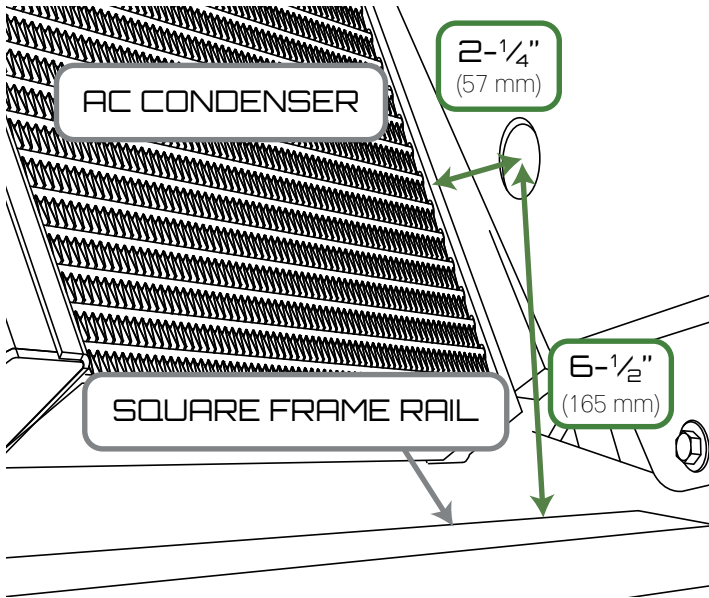

Figure 2 - Marking the Center-Point
6. Use a tape measure and Figure 2 to mark the center point for the adapter fitting through-hole in the plastic radiator shroud.